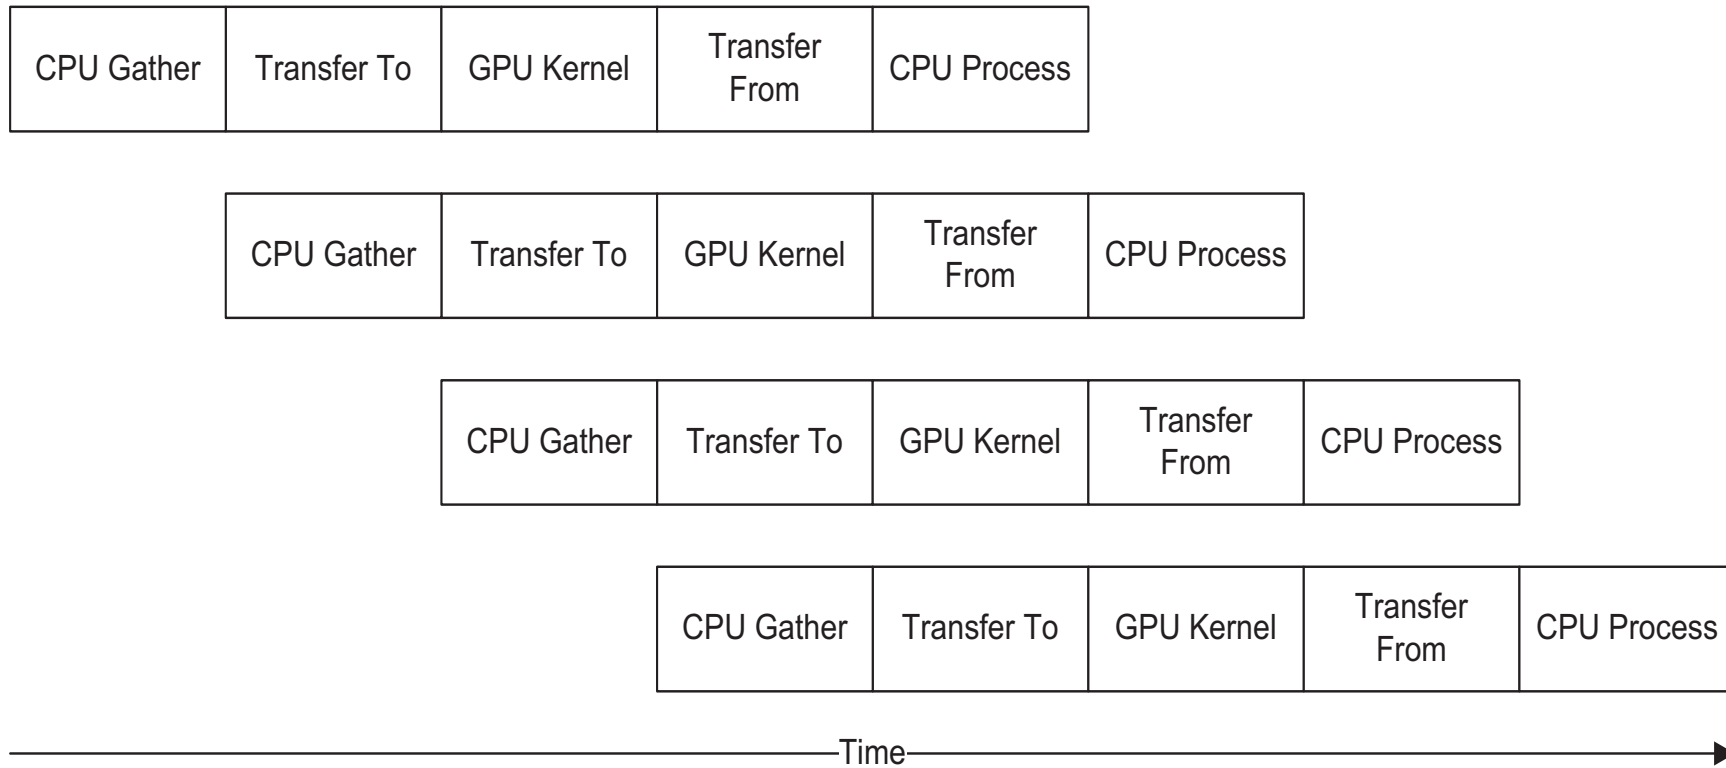

FIGURE 6.16
- A slightly more advanced model of this is where we use streams (covered later) to overlap transfers and kernels to ensure the GPU is always kept busy, as shown in Figure 6.16.
- Figure 6.16, the memory accesses are pipelined.